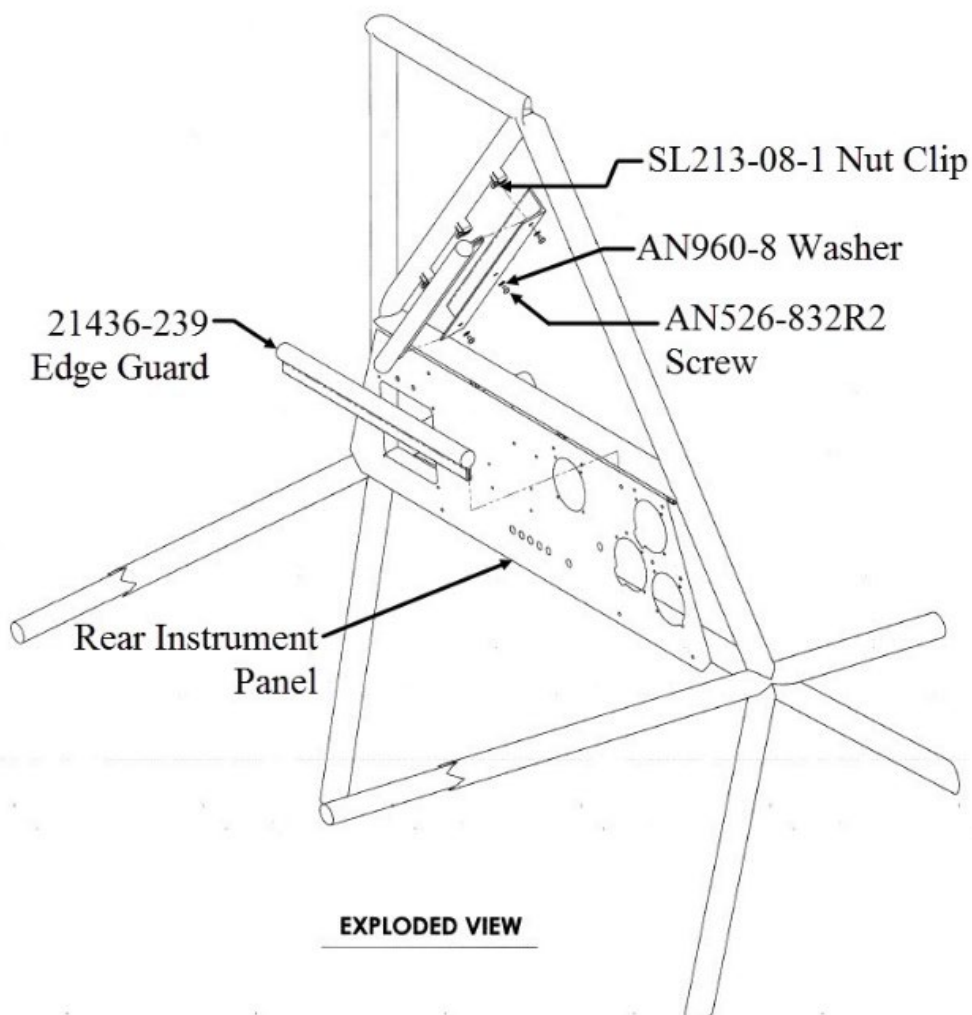

Figure 45-3
1. Insert top edge guard in angle flange as shown in Figure 45-3.